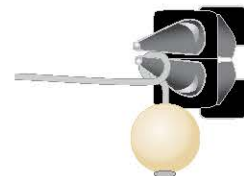

FIG. 21
5. Remove the top jaw of the pliers from the loop and insert the bottom jaw of the pliers in the loop. With your other hand, bring the wire down around the bottom jaw of the pliers, completing the loop and leaving the wire in a horizontal position (FIG. 21).